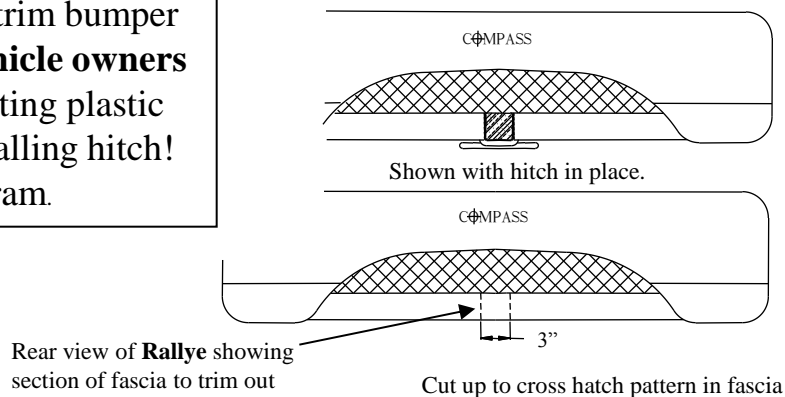
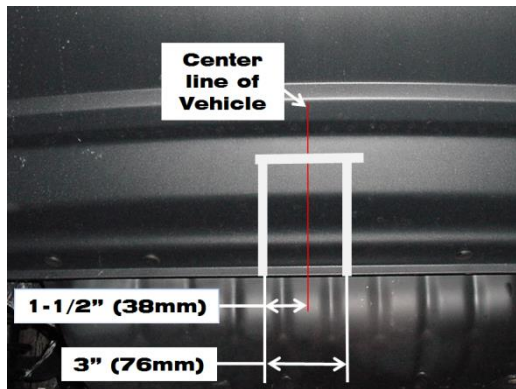

Figure 2
Figure 3
1. If vehicle has **optional tow hook** see Note 1. above. For **Compass Rallye** see Note 2 and Figure 2. **Check with vehicle owner.** For **2011 and later Jeep Patriot and Compass models.** Fascia trimming is required for hitch installation. Obtain vehicle owners approval before cutting. See Figure 3 and figure 4 for fascia trimming diagrams.
- On Compass Rallye Package only.** Use hitch receiver tube as a guide to cut a 2-1/4" wide by 2" high piece out of bumper fascia to allow clearance for ball mounts. See Figure 2.